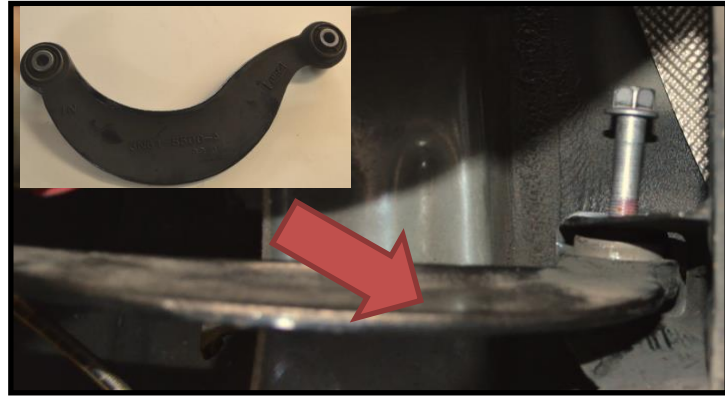

Figure 1a
Figure 1a shows the camber arm from under the vehicle.
- c) **Start by locating the old camber arm under one side the vehicle forward of the strut mount.** Figure 1a shows the camber arm from under the vehicle.